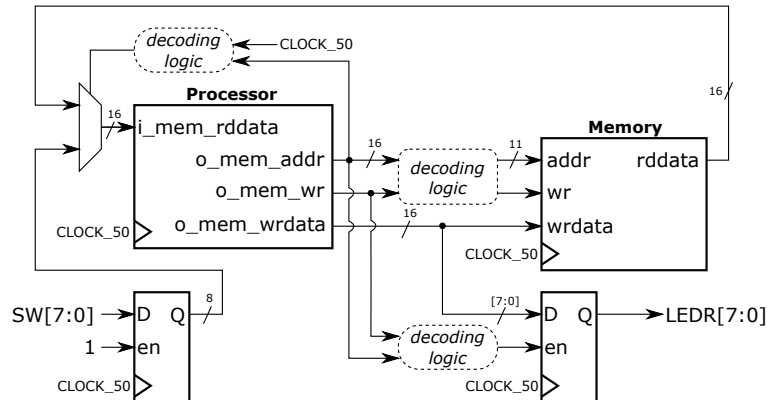

Figure 1: Part I Block Diagram
Figure 1 shows a block diagram of the system and its connections. The processor can write to two devices (memory, and a register feeding the 8 red LEDs) and can read from two devices (memory, and a register capturing the 8 switches). This is decided based on the address emitted by the processor, and is performed by the blocks marked “*decoding logic*” in the figure, which you will need to create.
2. Implement the rest of the system shown in Figure 1, and using the memory map given in Table 1. There are a lot of addresses assigned to the LED and switch peripherals, to simplify address decoding. The easiest and recommended approach is to, for example, treat all addresses `0x2000-0x2FFF` as mapping to the same 16-bit word, and have each switch be one bit inside this word. Same for the LEDs.